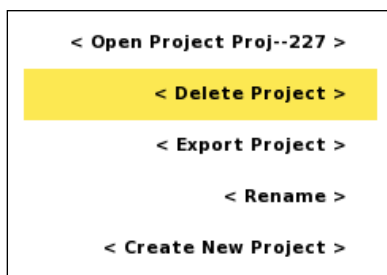

Figure 99 Project options menu
- Highlight <Delete Project> (*Figure 99*)